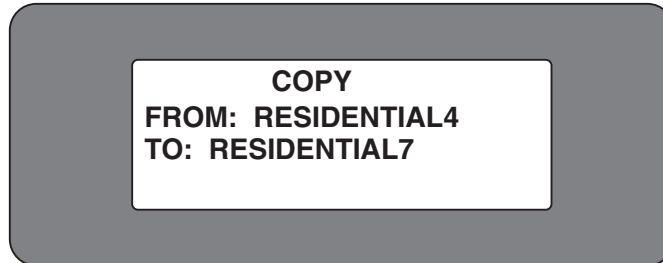

Figure 15: COPYING A RECORD
2. Select **COPY** using the red ↓ or ↑ keys, and press the red ENTER GROUP key. The **COPY** display appears (see Figure 15).